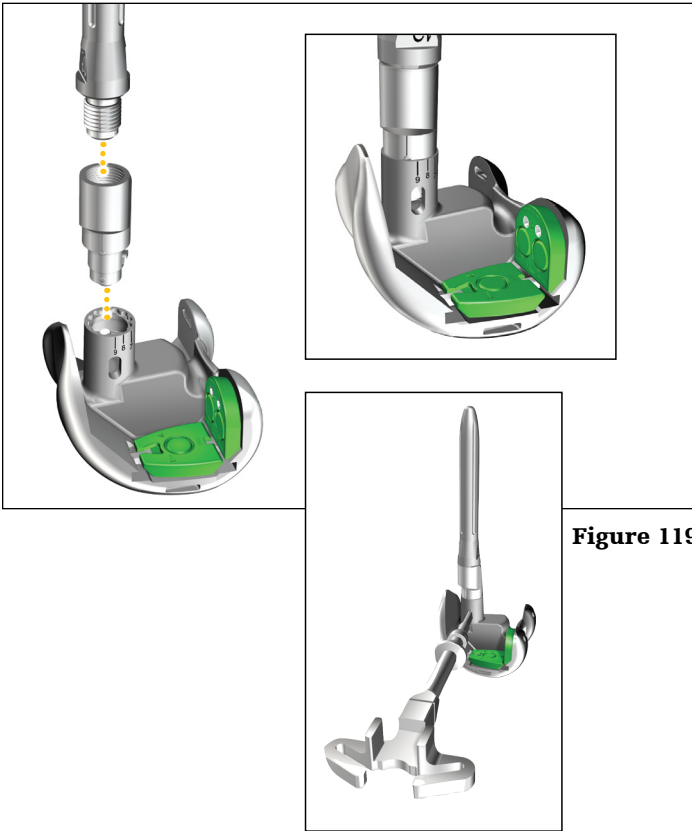

Figure 119
- ▶ **With offset:** Thread the appropriate size Stem Trial into the appropriate size Offset Adapter Trial (**Figure 119**).